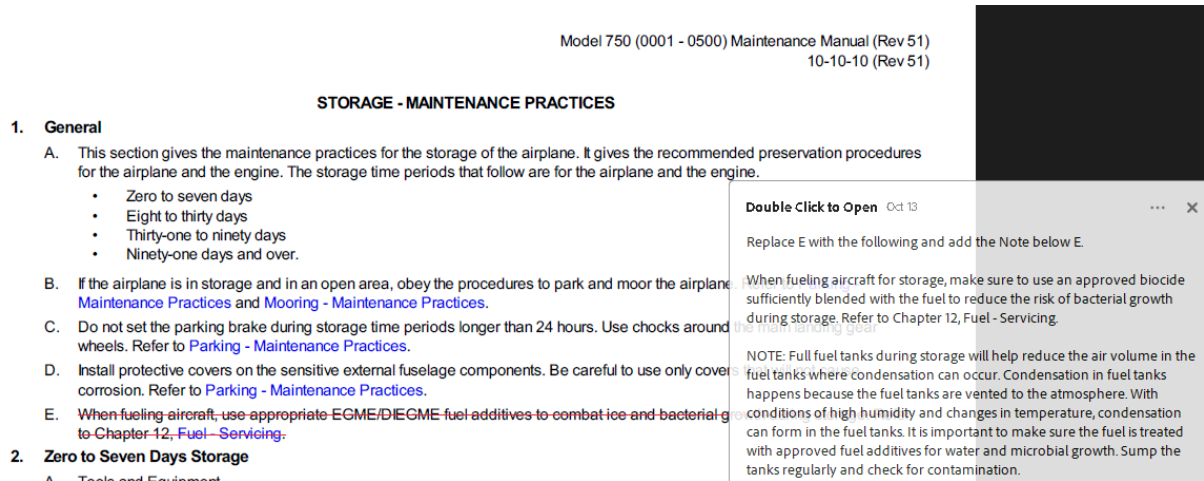

Figure 21 - Example PCR Attachment
1. Step 3.B.(1) states the CAS message should display and it does not if you perform the procedure as written. Please clarify where the CAS message should display in the procedure.
- ii. For Example, refer to Figure 21.